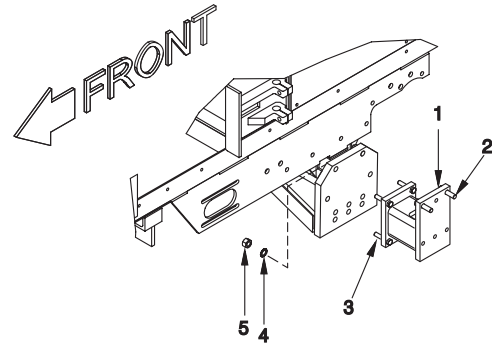

Figure 2-3-3 - Mounting Axle Extension
A. Place (5) Item 3 Bolts through Axle Extension and secure to axle using (5) Item 4 star washers and Item 5 Nuts as shown in Figure 2-3-3. Torque all nuts and bolts as per torque chart on page 2-3-1.